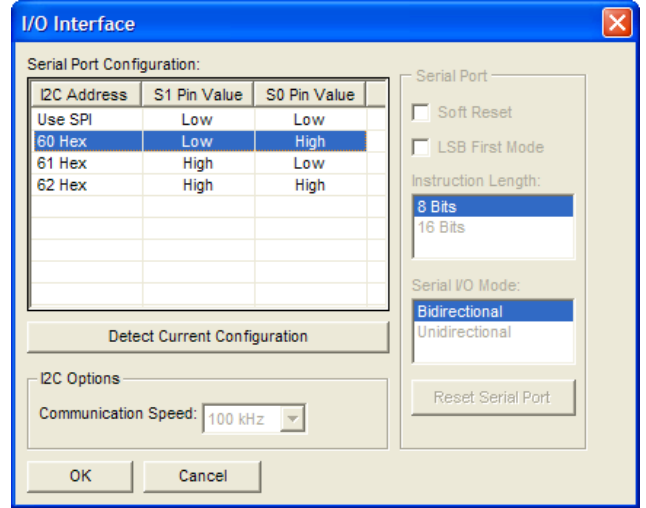
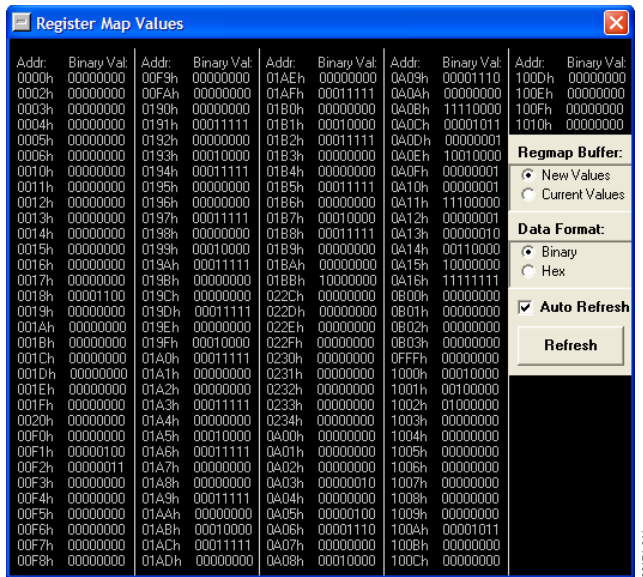

Figure 8. Serial Port Configuration Window
Figure 10. Register Map Window
3. Click the **Reset Serial Port** button, and then click **Detect Current Configuration** (see Figure 8). A dialog box should appear to acknowledge the I²C mode and address.
Selecting **Configure Serial Port** from the **I/O** menu allows you to control how the USB controller interacts with the AD9523 serial port (see Figure 8) by configuring Register 0x0000 (shown as **0000h** in Figure 10).
The **Register Map Values** window, accessed by selecting **Register Map Window** from the **View** menu, allows you to read registers (see Figure 10).